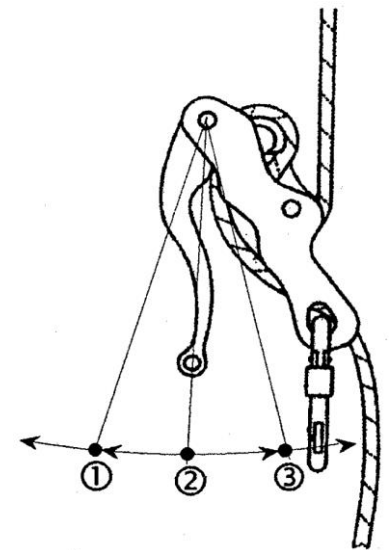

Fig. 4
- Remove Hook and loop fastener retaining strap and remove soft lock on descender. Test the function of the descender with the handle released (position 1, Fig. 4) by pulling upward on the rope (the end with the snap hook) to ensure the brake mechanism is working properly. Perform the same test with the handle squeezed completely (position 3, Fig. 4). Squeeze the handle to the midpoint (position 2, Fig. 4) while again pulling upward on the rope to ensure the rope slides smoothly through the descender in this position. Re-tie the soft lock so that the descender cannot be inadvertently depressed.
- Proper usage of the descender will allow descent at a controlled, safe rate. The maximum speed of descent should not exceed 6.5 ft/sec. (2. m/sec). If the user's weight is in excess of 265 lbs. (120 kg), The maximum speed of descent should not exceed 3.3 ft/sec. (1m/sec.). By increasing pressure on the handle, the user will activate the braking position feature (position 3, Fig. 4) and the descent will be stopped or considerably slowed. Releasing the handle completely (position 1, Fig. 4) will also activate the braking feature. If additional braking is required, before starting to rappel, the free end of the rope must be through the carabiner, vary the angle of the tail of the descent line against the carabiner frame to control the rate of descent to 3.3 ft/sec. (1m/sec.) maximum. Make sure the action of the rope will not unscrew the carabiner's gate. (Fig. 11)
- To rappel, slowly squeeze the handle toward the body of the descender with one hand to the midpoint (position 2, Fig. 4) while the other hand controls the free end of the rope to provide additional braking (tailing). Make a slow controlled descent to the ground. If the need arises where the descent must be stopped, re-tie the soft lock so that the descender cannot be inadvertently depressed.
- Test the function of the descender with the handle released (position 1, Fig. 4) by pulling upward on the rope (the end with the snap hook) to ensure the brake mechanism is working properly. Perform the same test with the handle squeezed completely (position 3, Fig. 4). Squeeze the handle to the midpoint (position 2, Fig. 4) while again pulling upward on the rope to ensure the rope slides smoothly through the descender in this position.
- Proper usage of the descender will allow descent at a controlled, safe rate. The maximum speed of descent should not exceed 6.5 ft/sec. (2. m/sec). If the user's weight is in excess of 265 lbs. (120 kg), the maximum speed of descent should not exceed 3.3 ft/sec. (1m/sec.). By increasing pressure on the handle, the user will activate the braking position feature (position 3, Fig. 4) and the descent will be stopped or considerably slowed. Releasing the handle completely (position 1, Fig. 4) will also activate the braking feature. If additional braking is required, before starting to rappel, the free end of the rope must be through the carabiner, vary the angle of the tail of the descent line against the carabiner frame to control the rate of descent to 3.3 ft/sec. (1m/sec.) maximum. Make sure the action of the rope will not unscrew the carabiner's gate (Fig. 11).
- Inspect for proper operation of both the brake mechanism and the descent handle mechanism. Also make sure that the rope slides smoothly through the unit when the handle is depressed to the midpoint (position 2, Fig.4).